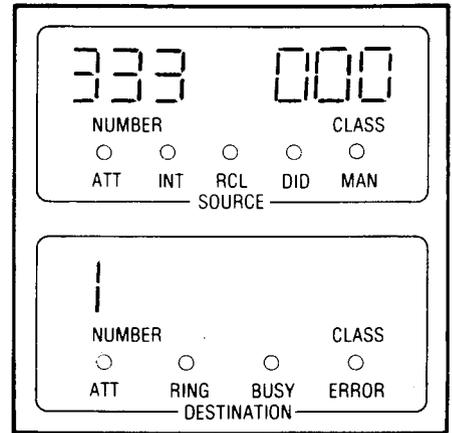

Fig. 363-1
- DESTINATION display shows room status code (and period if maid in room) (See Fig. 363-1 and Table 363-1)
- DESTINATION display changes to read digit "1" for room status (Fig. 363-1)